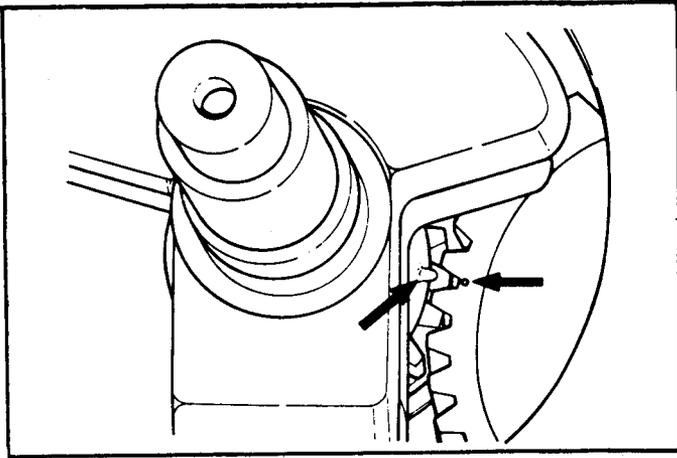

Figure 30 Timing Marks On Crankshaft and Camshaft
- Turn crankshaft and camshaft until timing mark on shoulder of crankshaft lines up with mark (dot) on cam gear as shown in Figure 30.